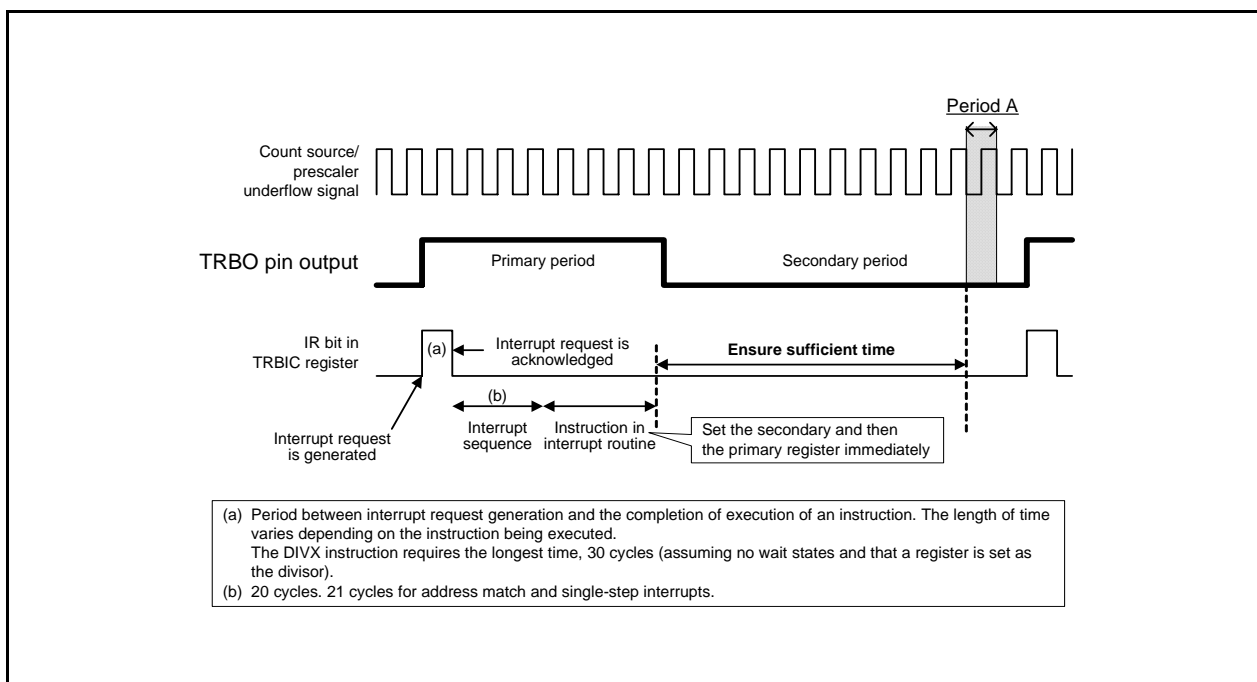

Figure 14.25 Workaround Example (a) When Timer RB Interrupt is Used
- (1) To write to registers TRBPRES and TRBPR during count operation (TCSTF bit is set to 1), note the following points:
- (2) To change registers TRBPRES and TRBPR during count operation (TCSTF bit is set to 1), synchronize the TRBO output cycle using a timer RB interrupt, etc. This operation should be performed only once in the same output cycle. Also, make sure that writing to the TRBPR register does not occur during period A shown in Figures 14.25 and 14.26.
As shown in Figure 14.25, write to registers TRBSC and TRBPR in the timer RB interrupt routine. These write operations must be completed by the beginning of period A.